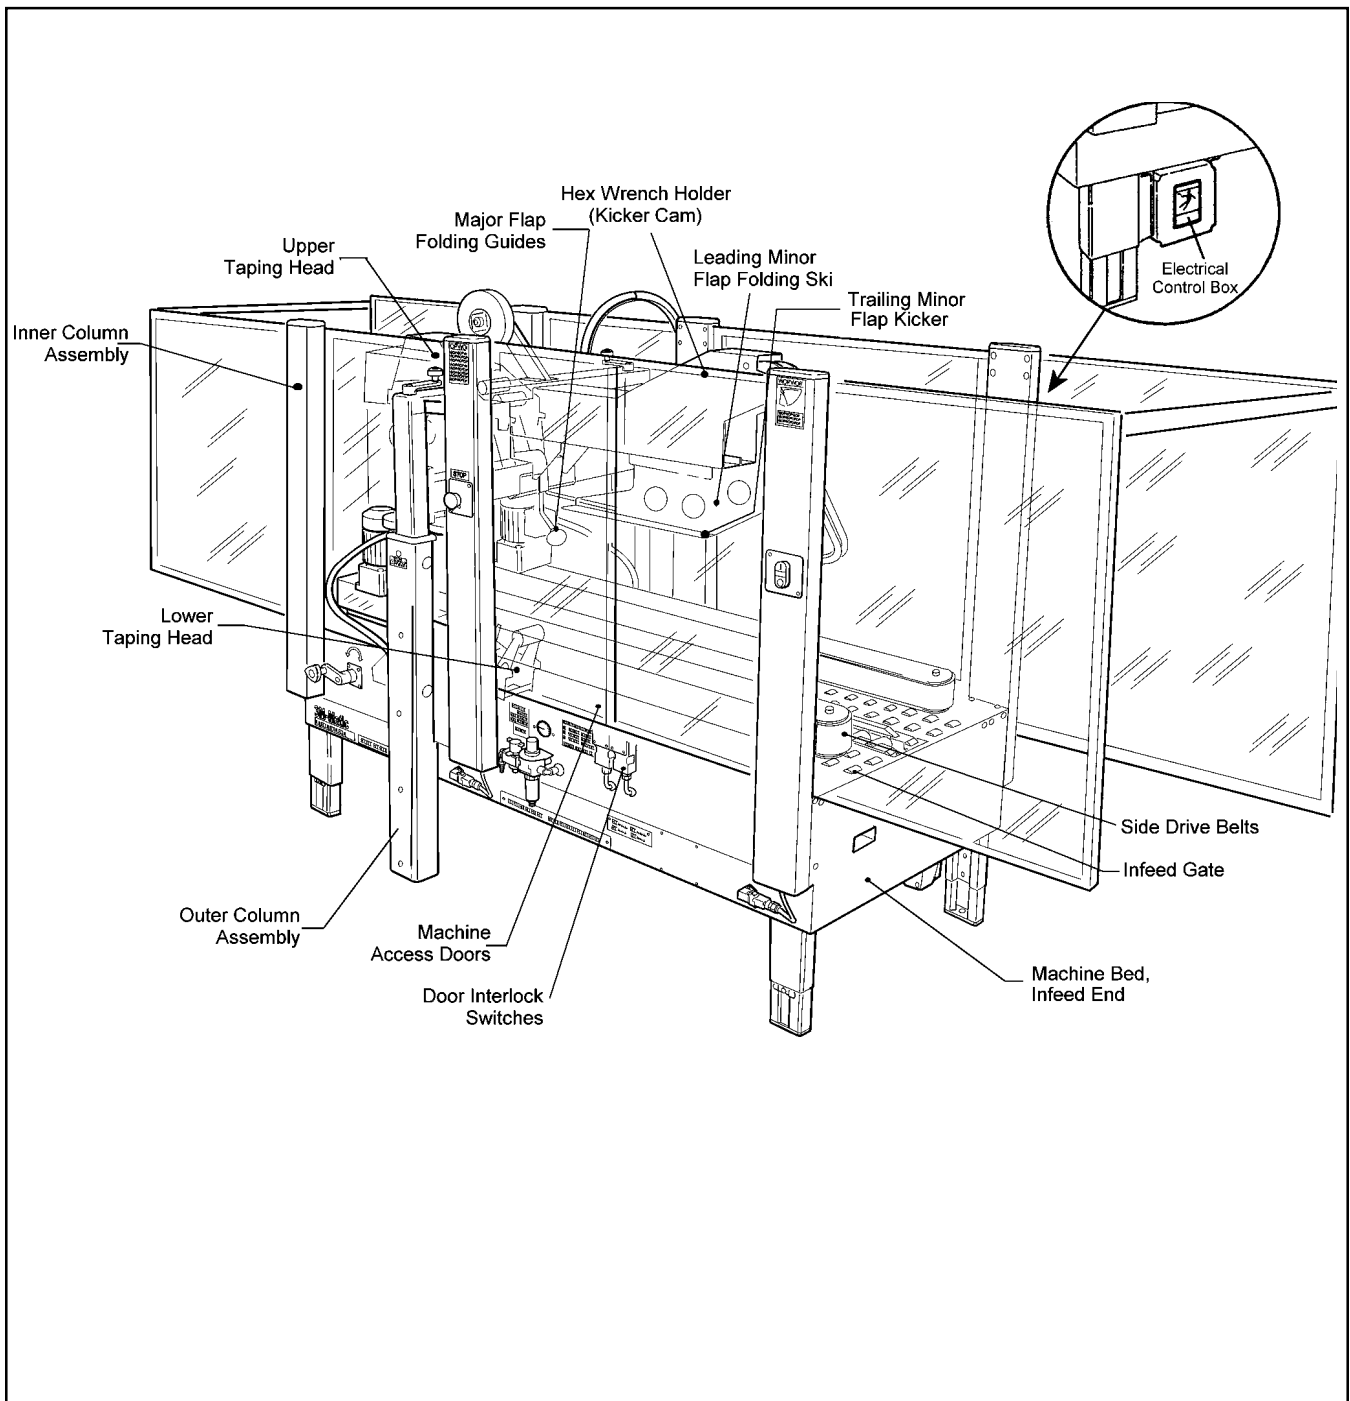

Figure 3-1 – Case Sealer Components
The following instructions are presented in the order recommended for setting up and installing the case sealer. Following them step by step will result in an installation in your production line that best utilizes the many features built into the case sealer. Refer to Figure 3-1 and 3-2 to identify the various components and controls of the machine.
14. Electrical connection and controls – the electrical control box shown in Figure 3-1, contains the "On/Off" switch with pre-set breaker and can be located on either side of the machine frame for operator convenience. A standard three conductor power cord with plug is provided at the back of the electrical control box for 115 Volt, 60 Hz, 3.8 Amp electrical service. The receptacle providing this service shall be properly grounded. Before the power cord is plugged into 115 Volt, 60 Hz outlet, make sure red "Off" button is
Refer to Figure 3-1 and 3-2 to acquaint yourself with the various components and controls of the 800af case sealer. Also see Figures 3-1 and 3-2 in Section II for taping head components.
Note: 5 mm hex key wrench is supplied with machine and should be kept in wrench holder on side of upper frame. See Figure 3-1.